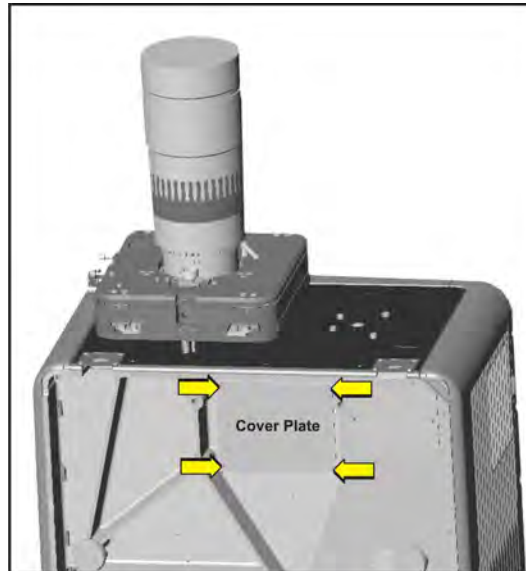

Figure 5-23 Remove Cover Plate
1. Remove the four, 3mm screws securing the fold mirror cover plate under the front portion of the projector. Remove cover plate. **(Figure 5-23)**